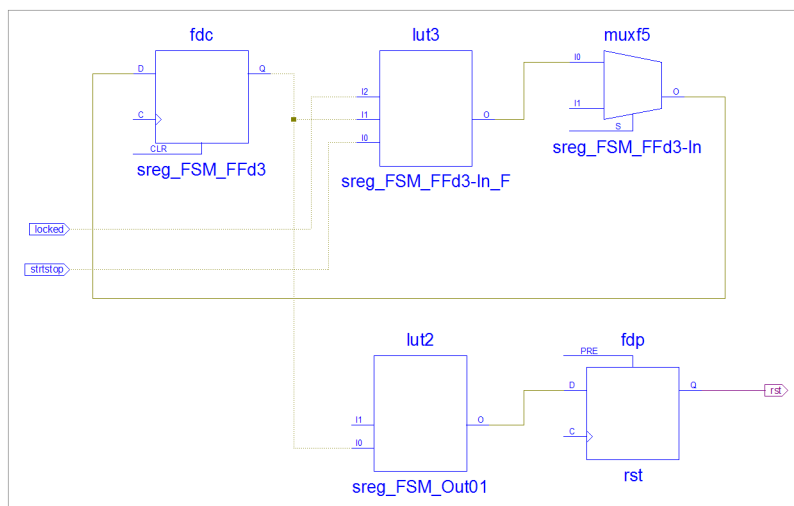

Figure 5-17: Hierarchical Boundaries
- Further incremental design exploration shows that schematic expansion stops at **MACHINE** hierarchy boundaries as shown in Figure 5-17.